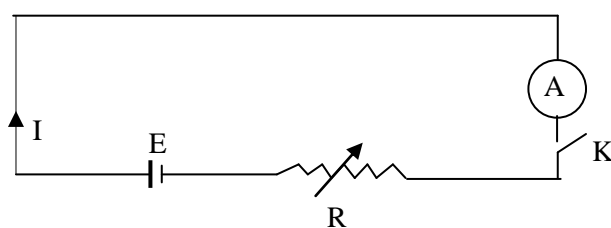

Figure 30
- (a) The arrangement of the equipment should be as shown in Figure 30: